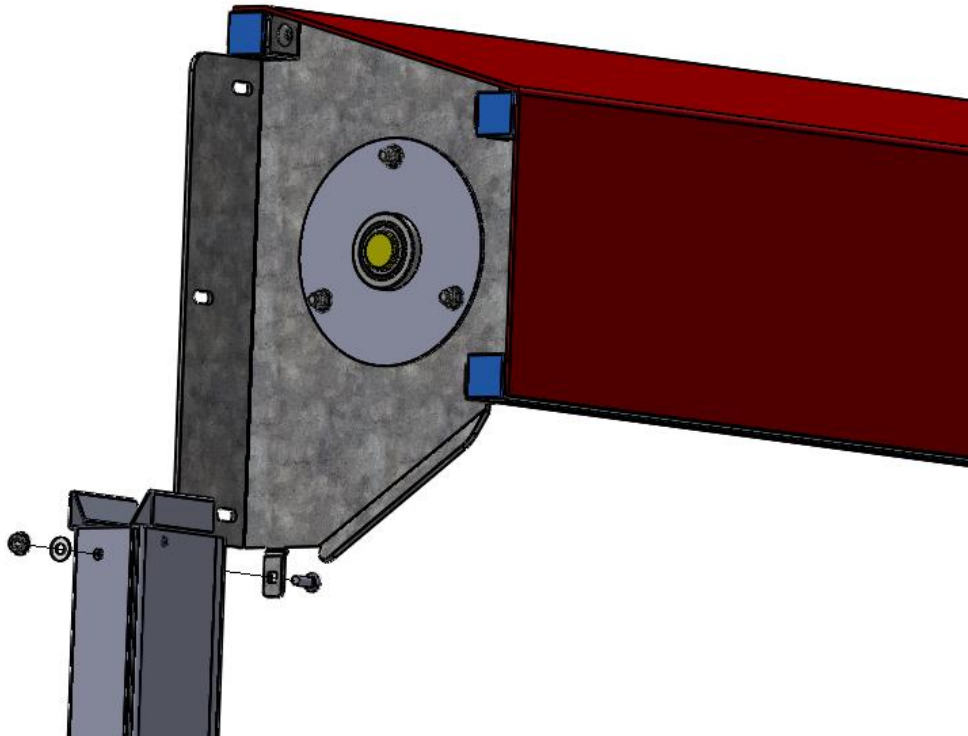

Figure 8 MOUNT TRACK TO HEADER
1. Starting with either the left or right side, loosely “hang” the Track Assembly from the Header Assembly Mounting Bracket with the Track Mounting Hardware. Note that the Track assembly mounts to the outside of the tab of the Header Assembly Mounting Bracket. It is important to insert the carriage bolt from the inside, and the washer and hex nut on the outside of the assembly as shown. (Figure 8 MOUNT TRACK TO HEADER)